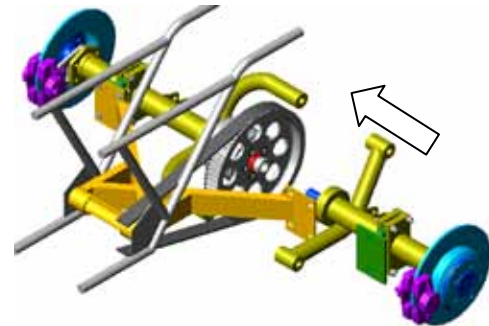

Figure 30
- b. Install left Axle Housing to right Axle Housing. Ensure proper engagement of axle and differential splines. Figure 30